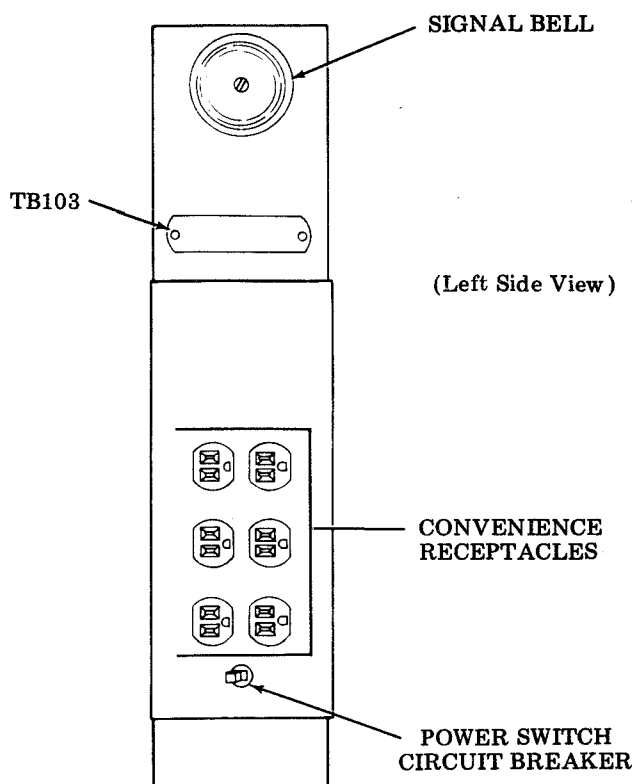
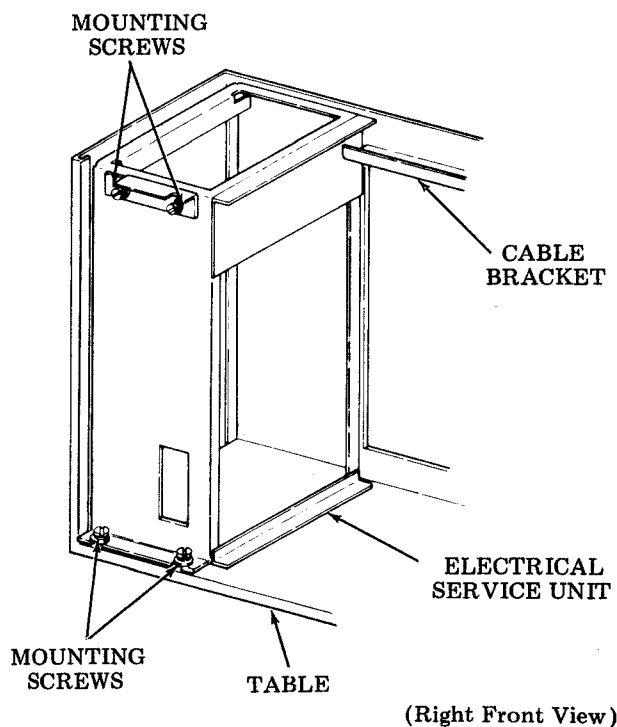

Figure 16 - 37 Utility Strip
Figure 17 - ESU Mounted in Table
4.21 The utility strip (Figure 16), if used, and the electrical service unit (ESU) are exposed when the front panel on the table is removed (2.04). To gain easier access to the circuit cards and answer-back unit (optional), the electrical service unit may be removed from the table. To remove the ESU, refer to Figure 17 and proceed as follows.
- (1) Cut the plastic strapping with a pair of side cutters.
- (2) Pull out the strapping, being careful not to jar the unit.
- (3) Remove the packing material.
4.24 Code the answer-back drum as outlined in the following paragraphs. Use the ASCII (American National Standard Code for Information Interchange) shown in Figure 19. Replace the electrical service unit, install the three mounting screws on the front plate, and route the cables over the bracket on the back panel (Figure 17). Route the power supply cable from the utility strip (Figure 16) through the oblong opening in the base of the table. **DO NOT CONNECT THE POWER CABLE AT THIS TIME.** If equipped with a utility strip, check to insure that the power cable from the electrical service unit is connected to an outlet on the utility strip.